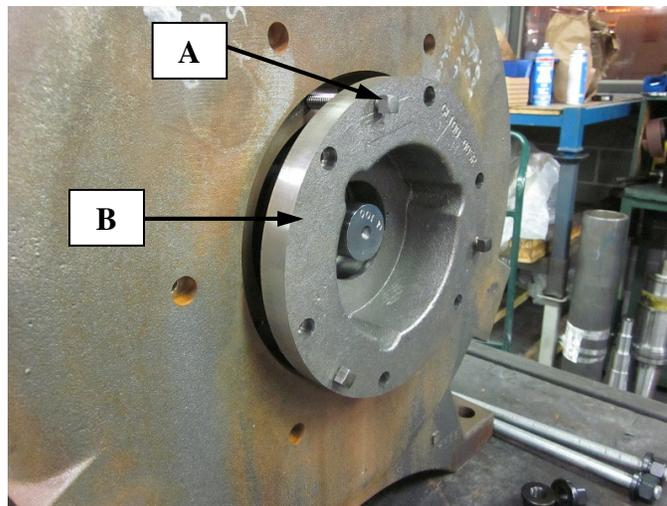

Figure 8
- After the jack bolts, "A", are installed, begin by turning each jack bolt a couple turns at a time. If one jack bolt is turned to far before the others, it will cause the back cap, "B", to bind within the machine housing making removal difficult. Continue rotating each jack bolt until the rear cap is free from the machine housing. Refer to Figure 8.